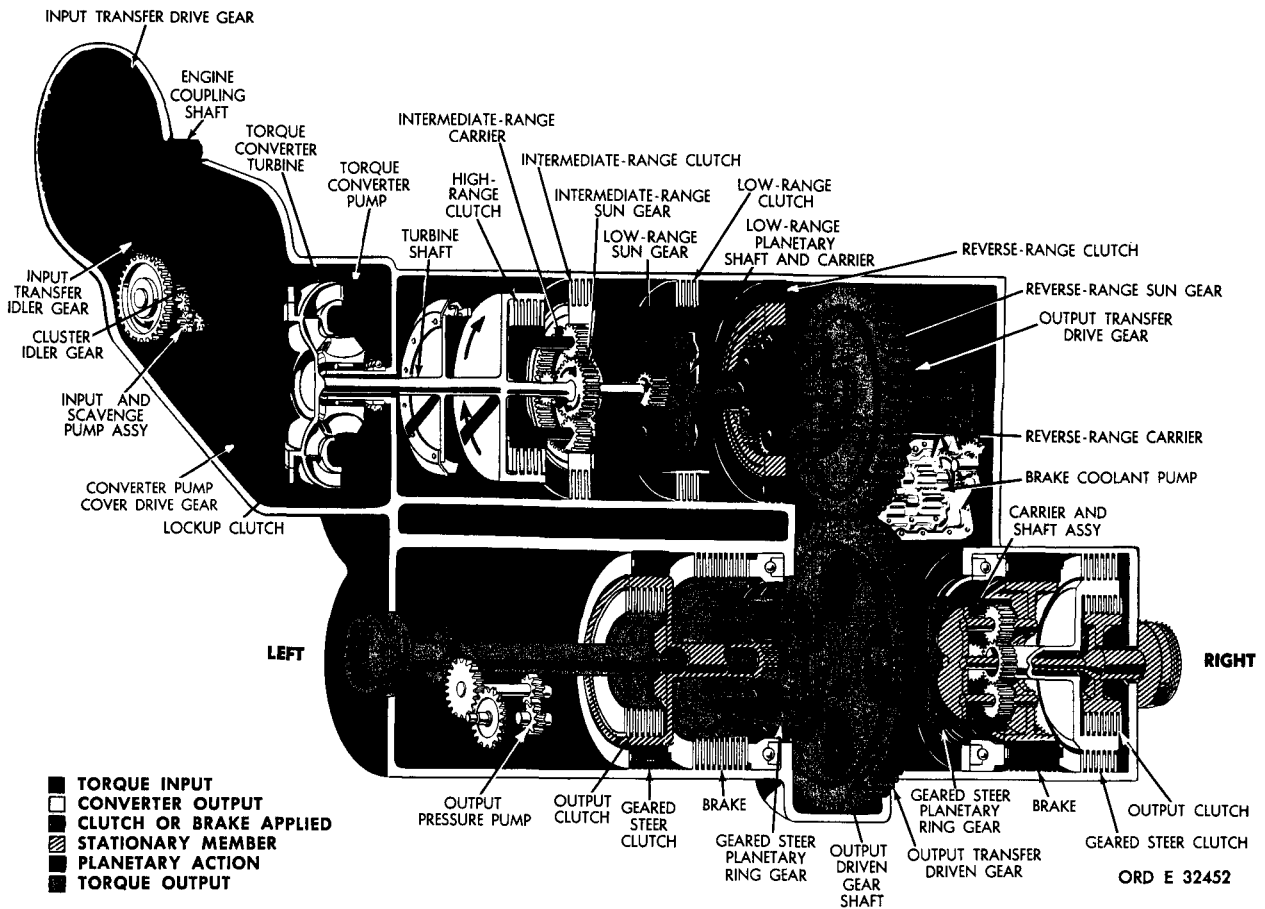

Figure 33. Reverse 1-gear, full-right-steer torque path, converter operation
**57. TORQUE PATH - REVERSE 1 GEAR, FULL-RIGHT STEER, CONVERTER OPERATION (fig. 33)**